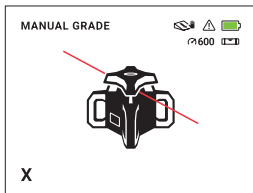

Fig.19
- To create a manual grade / slope, press and hold the **power / manual grade button** on the laser level or remote control. The laser will automatically select the X-axis (Fig. 19). When grade mode is active, the following icon will be displayed on the LCD screen on the laser level and remote control: